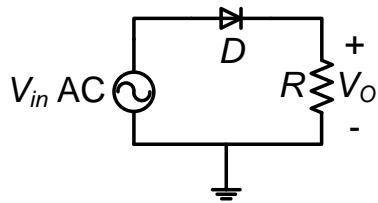
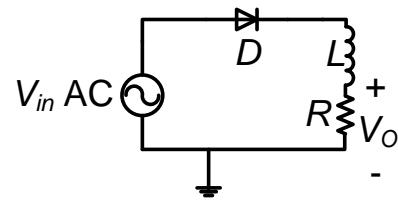

Fig. 1. Half-wave rectifier with resistive load
Fig. 2. Half-wave rectifier with R-L load
**ATTENTION:** During this experiment, do not touch any part of the circuit while energized. The AC source is only grounded as shown in Figures 1 and 2 when the function generator is a source. Do NOT ground the VARIAC.
- 2.1.2 On the proto board, build the circuit shown in Fig. 1. The diode ( $D$ ) is 2A01G-T rated for 50V and 2A while the load resistor ( $R$ ) is  $51\Omega$ .
- 2.2.1 Using the same circuit in Fig. 1, connect a  $4.7\text{mH}$  inductor ( $L$ ) in series with the resistive load as shown in Fig. 2.
- 2.3.2 Using the same circuit from Fig. 1, i.e. with the inductor disconnected and the resistor being the only load, connect the VARIAC output using the plug-banana cable.